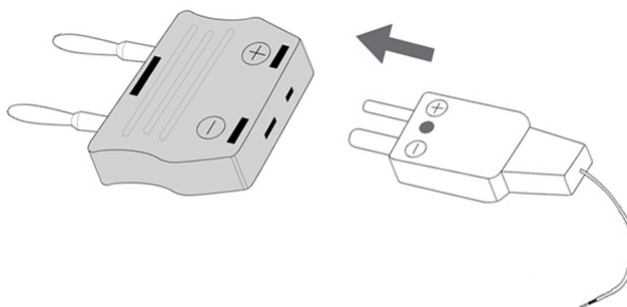

Figure 2-13 Connecting the thermal probe into the non-compensation transfer adapter
- 2 Connect the miniature thermal probe into the non-compensation transfer adaptor as shown in Figure 2-13.